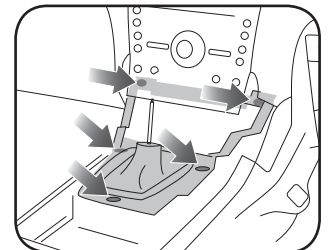

Fig. 1.6
5. Remove the five 7mm screws securing the shifter carriage. Disconnect the wire harness and remove the carriage. (Fig. 1.6)